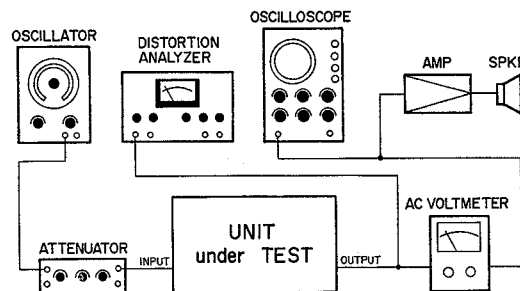

Fig. 7-4
- 1) Connect the measuring instruments as shown in Fig. 7-4. Obtain the standard setting according to procedures 2) — 6) of 7-5. and check record/reproduce level.